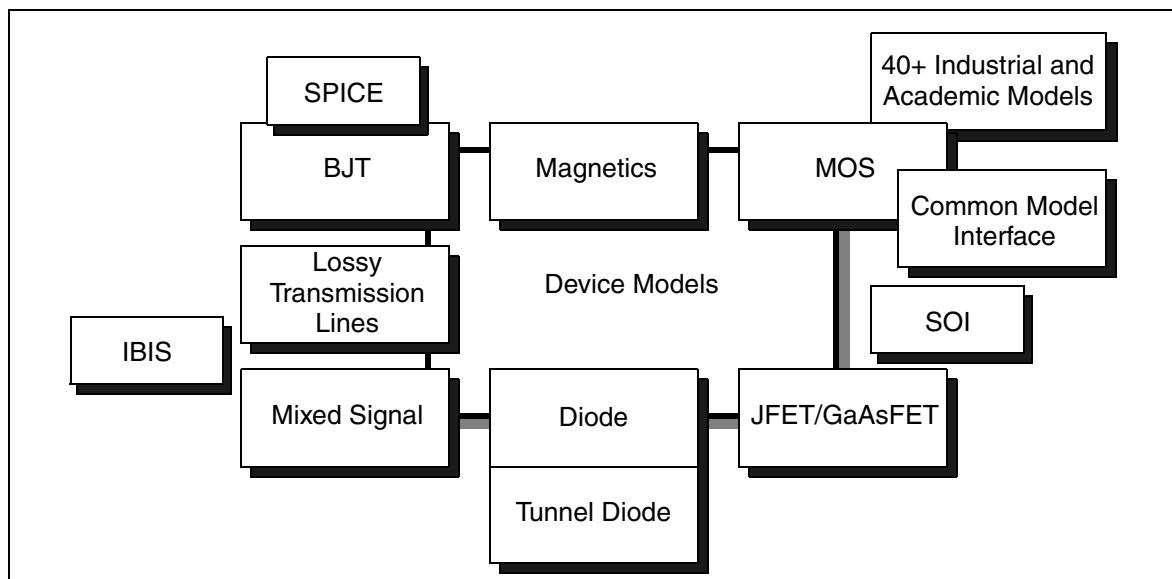

Figure 2 *Synopsys HSPICE Modeling Technologies*
- A number of circuit analysis types (see Figure 2 on page 6) and device modeling technologies.